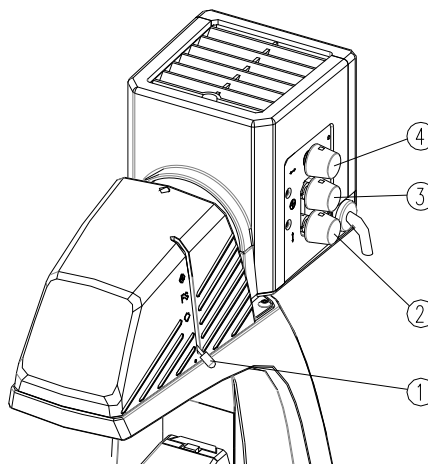

Fig.7 Adjustment of Field Diaphragm and filament
- a. Adjust field diaphragm lever ① to make diaphragm smaller until see the field. (Fig.7)
- d. Adjust lamphouse knobs (Fig.7) to make lamp filament image in the centre of aperture diaphragm, keep left right image in symmetry.